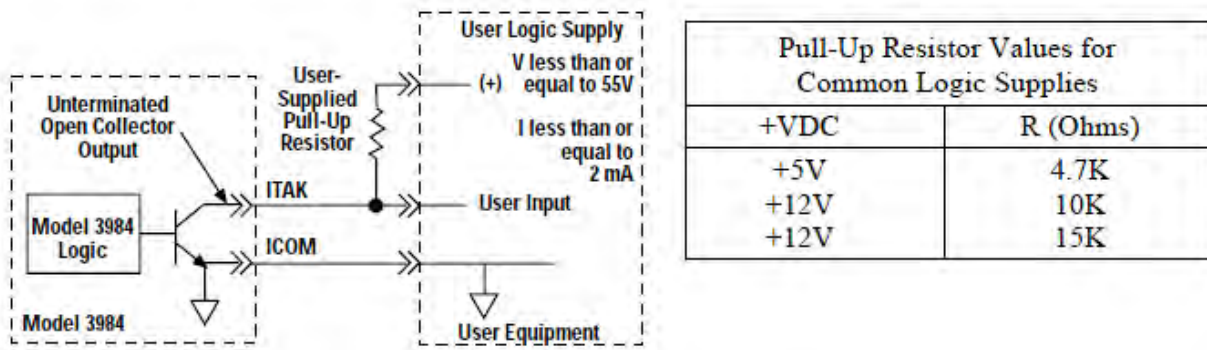

Figure 9 - Tachometer output
**Tachometer Output:** When used with the Bodine ABL-3911/3921 Brushless DC Motor Controls, the Model 3984 module provides a digital tachometer output at the ITAK terminal for monitoring motor speed. The output pulse levels are low to high to low. The typical pulse width is 0.8 msec. for the ABL-3911 and 0.19 msec. for the ABL-3921. Twelve pulses correspond to one motor revolution. The ITAK output provides an un-terminated open collector output. A pull-up resistor or another logic device is required for measuring the output. See Figure 9 for assistance in interfacing the ITAK output.